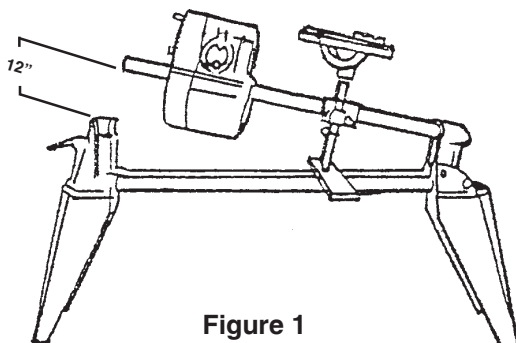

Figure 1
5. Using your Table Height Handle, raise the Bench Tubes vertically, see Figure 1, until the Headstock will clear the Headrest. (Approximately 12").